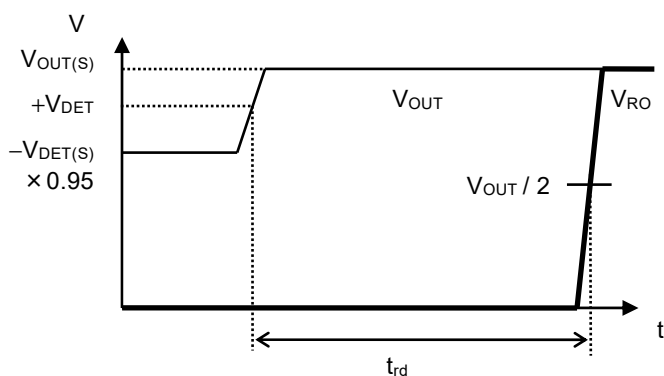

Figure 4 Release Delay Time
*3. The time from when V_{OUT} exceeds $+V_{\text{DET}}$ to when the RO pin output inverts (Refer to **Figure 4**). This value changes according to the release delay time adjustment capacitor (C_{DLY}).